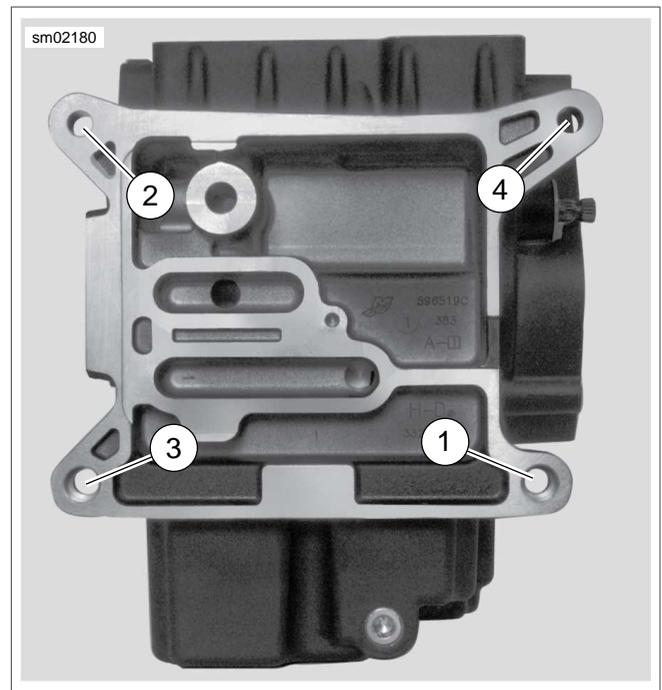

Figure 7-55. Transmission Housing to Crankcase Torque Sequence
- b. See Figure 7-55. Tighten bolts in the sequence shown to 15 ft-lbs (20.3 Nm) in the same crosswise pattern.